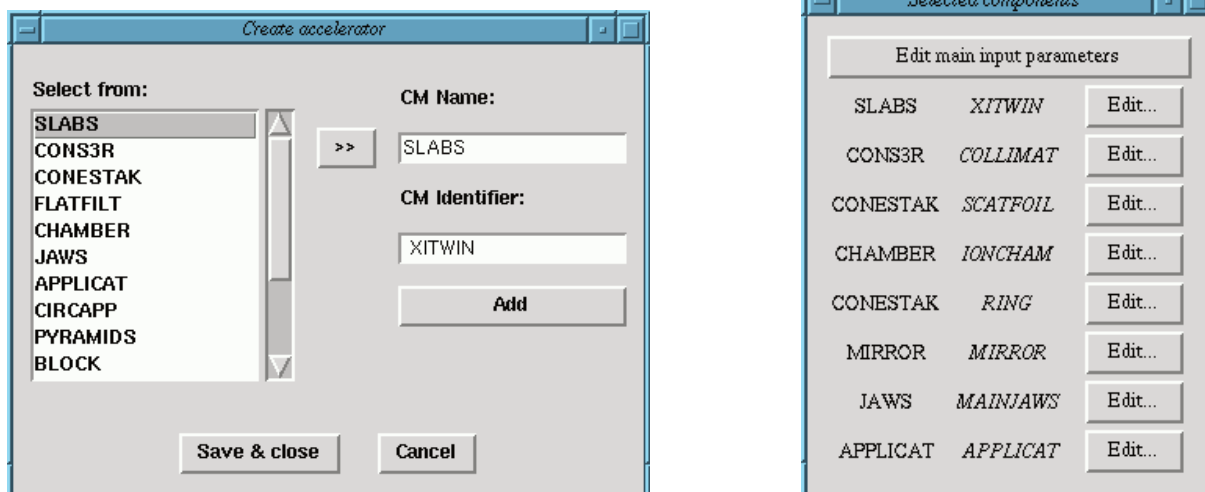

Figure 1: The windows for specifying a new accelerator (left) and for displaying the selected CMs in the accelerator (right).
The first step in using the GUI is to load an accelerator. If you wish to load a previously defined accelerator, select the **Load a previous accelerator** option from the main window **File** menu (shown on the front of this manual). A browser will allow you to select the file you wish to load from the `$EGS_HOME/beamnrc/spec_modules` directory closest to the directory in which the GUI was started. Otherwise, select the **Specify a new accelerator** option. A window will appear which allows you to select the CMs you would like to add to the accelerator, shown on the left of figure 1. Double-clicking a CM name on the list, or clicking once to select then clicking the “>>” button, will insert the CM name into the text box. Enter an identifier name (maximum of 8 characters) then click **Add** to add the CM to the accelerator. The window on the right of figure 1 shows the window which holds the selected CMs.
To edit the parameters for a component module (CM), click on the **Edit...** button associated with it (see the window on the right of figure 1). A window will appear with the necessary parameter entry boxes for the CM. A typical CONESTAK CM parameter window is shown in figure 3. The default values associated with that type of CM are displayed at the top of the window. If they are not appropriate for what you need, they may be edited in the file `$OMEGA_HOME/beamnrc/CMs/<CMname>_macros.mortran`. Note that if these files are changed, the changes will apply to all users. Also shown is the current Z-position on the accelerator of the front of that CM, based on the geometry defined for the previous CM at the time the window was opened (reopen the window to get an update of this value).